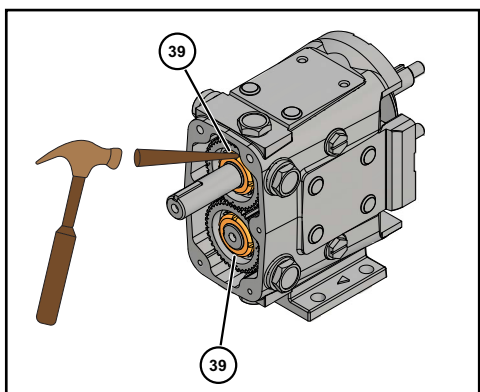

Figure 43 - Straighten Lock Tab
1. Straighten the tab on the lock washers (Figure 43, item 39).